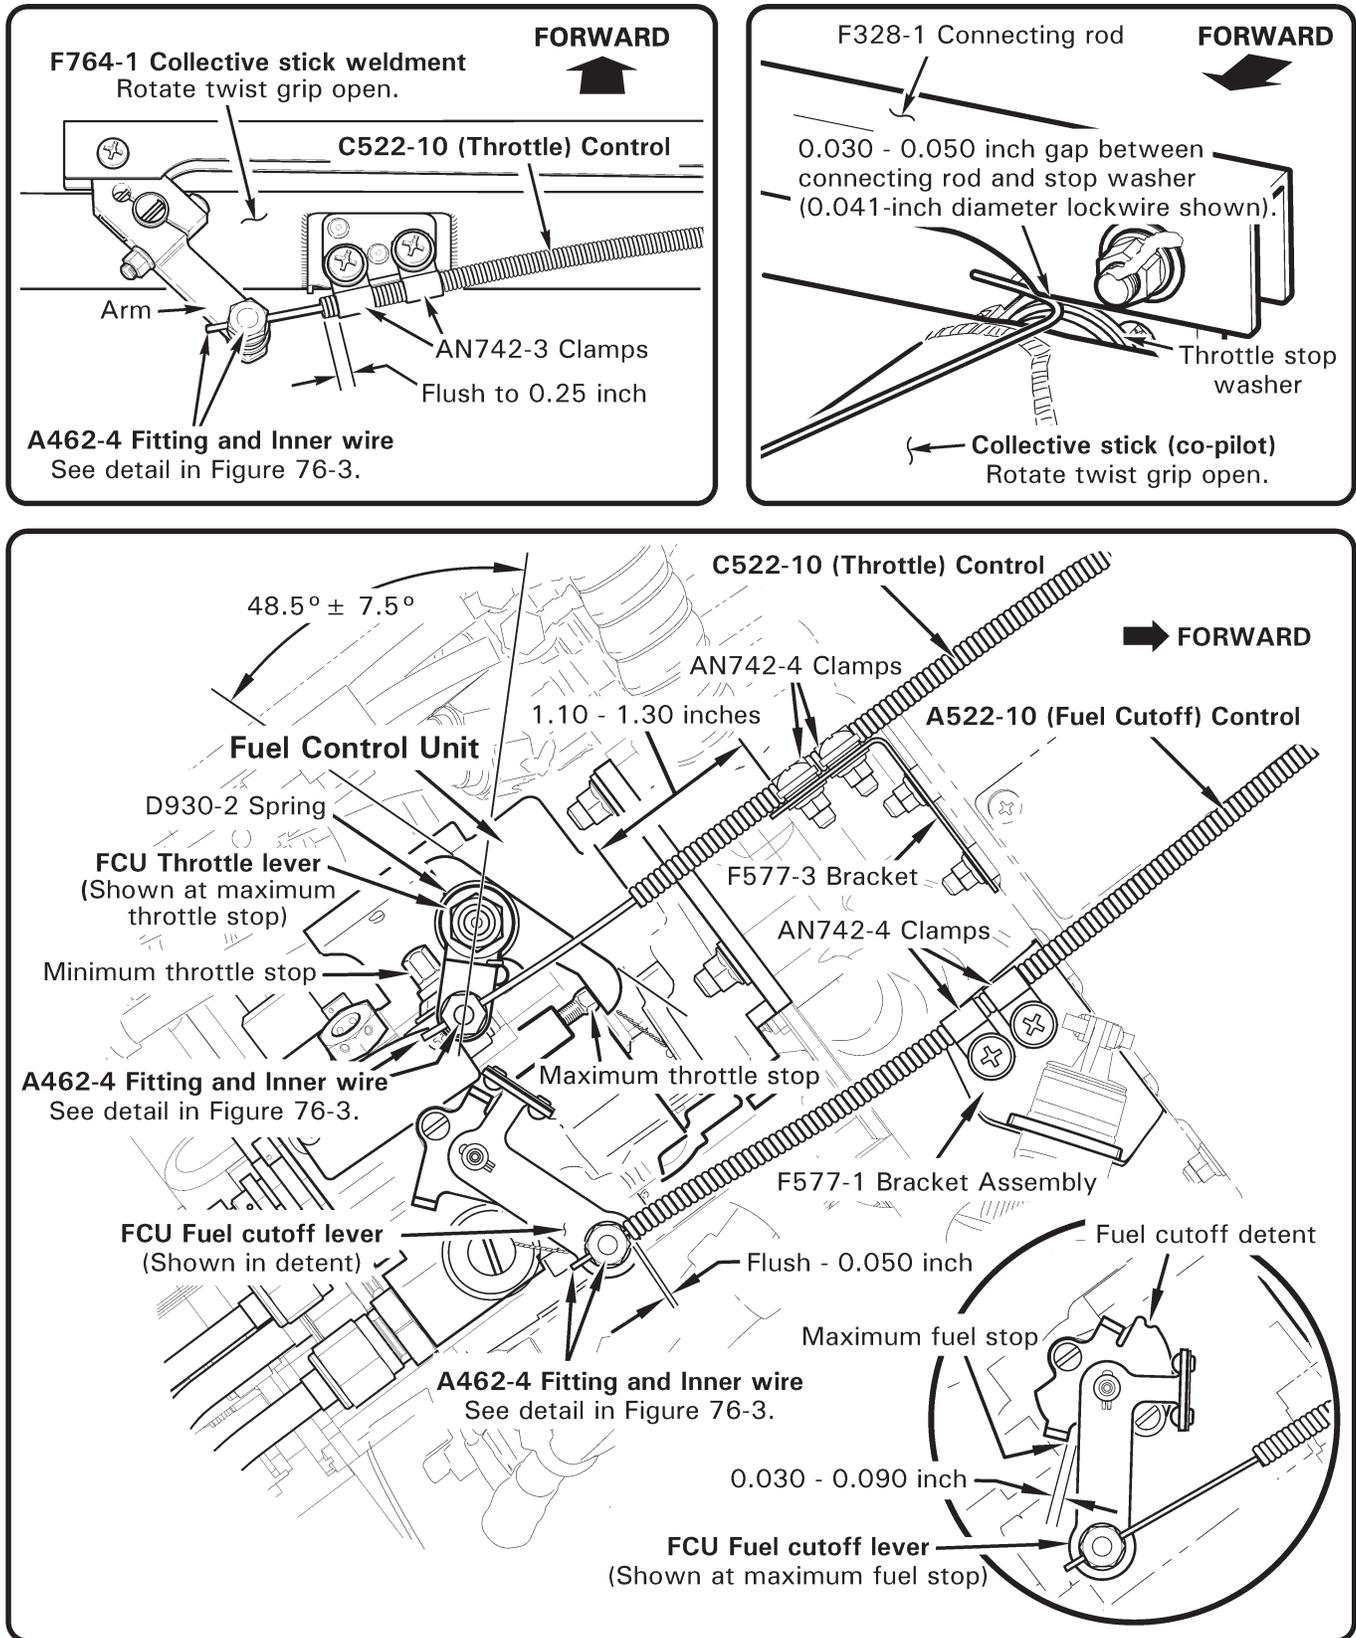

FIGURE 76-1 FUEL CONTROL UNIT
2. Refer to Figure 76-1. Remove fasteners securing C522-10 throttle and A522-10 fuel cutoff control inner wires to FCU throttle and fuel cutoff levers.
2. Refer to Figure 76-1. Verify FCU throttle lever rigging angle is $48.5^{\circ} \pm 7.5^{\circ}$. As required, remove hardware securing serrated levers and reposition to proper angle. Install hardware, special torque nut per § 20-33, & torque stripe per Figure 5-1.
2. Refer to Figure 76-1. Remove stamped nut and loosen nut securing A462-4 fitting and A522-10 (fuel cutoff) control inner wire to FCU fuel cutoff lever.